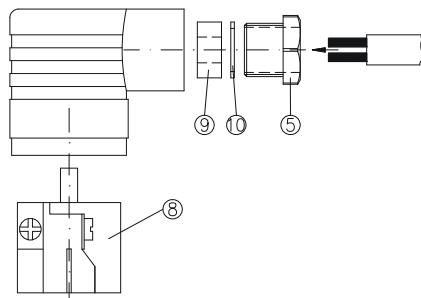

Fig. 10
- ↳ Insert the supply cable through the screwed cable gland ⑤, the pressure ring ⑩ and the rubber insert ⑨ into the cable socket ② (→ Fig. 10).